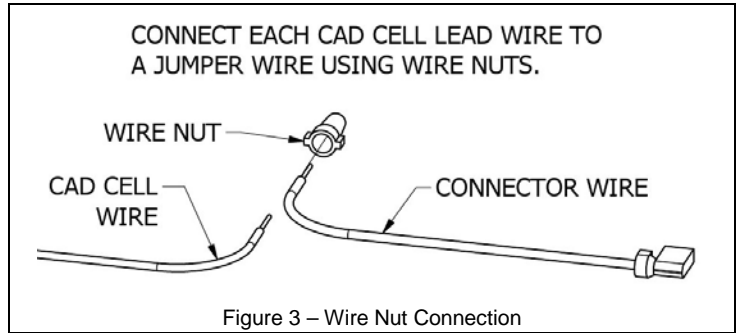

Figure 3 – Wire Nut Connection
1. Take the cad cell leads and connect them to the jumper wires using wire nuts as shown in Figure 3. To ensure a good connection, make sure to tightly twist the stripped wire ends together.